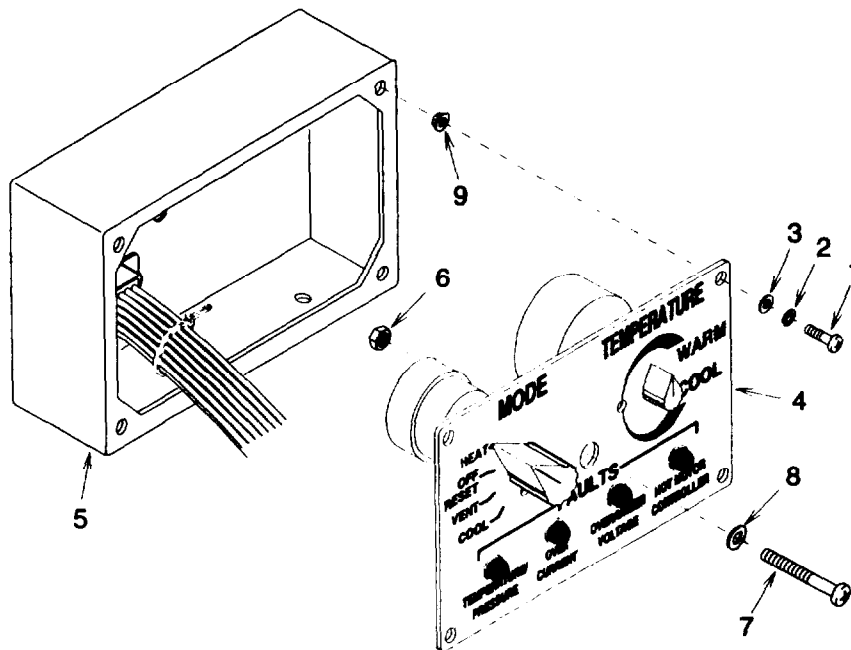

Figure 3-28. Control Panel Assembly
- (1) Remove four screws (1) Figure 3-28, lock washers (2), and flat washers (3). Discard lock washers.